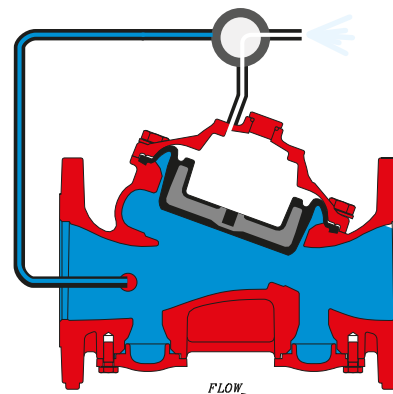

Fig 1b: Valve Open
In the open position (Fig 1b): Pressure is released from the control chamber by way of the operating valve (3), which can be activated either electrically, hydraulically, pneumatically or manually. With no pressure in the control chamber the seal disc will open and allow an unrestricted water flow through the valve into the to the system piping.